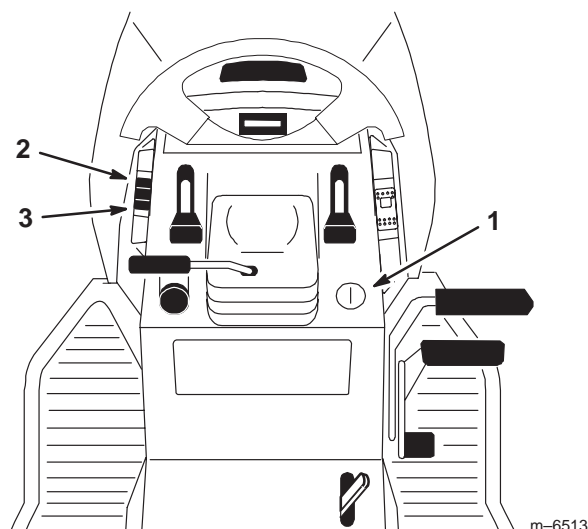

Figure 20
The attachment power lift (Fig. 20) is used to raise and lower attachments.
1. Turn key to the **on** or **run** position (Fig. 20).
2. Push the lift switch in the **up** direction to raise the attachment lift (Fig. 20). This will lift and hold the attachment in the up, or raised position.
2. Push the lift switch in the down direction to lower the attachment lift (Fig. 20). This will lower the attachment lift.